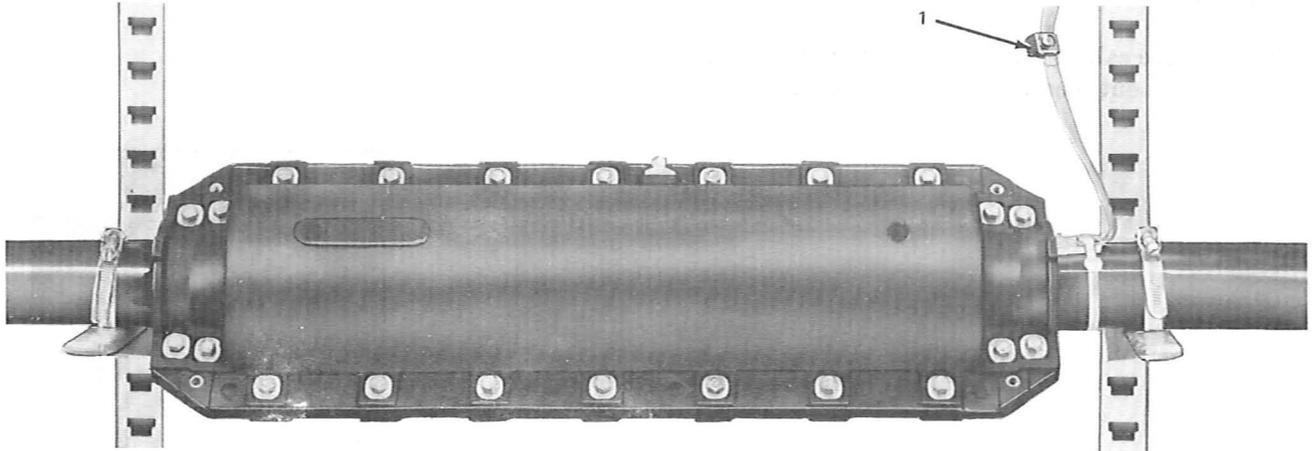

Fig. 16—Grounding Closure in Manhole
7. Ground closure as outlined in Fig. 16 or 17.